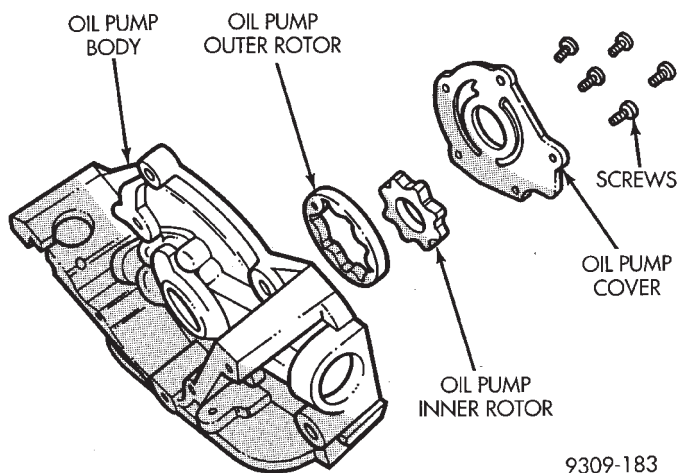

Fig. 104 Oil Pump
(4) Remove oil pump cover screws, and lift off cover.
(5) Remove pump rotors.
(6) Wash all parts in a suitable solvent and inspect carefully for damage or wear (Fig. 104).